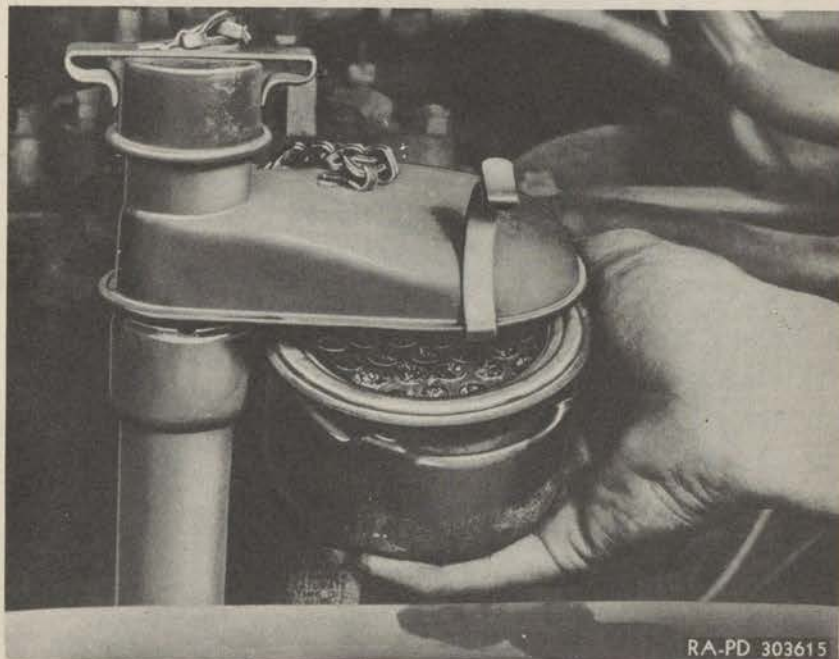

Figure 54—Removing Breather Sump and Mesh
- (1) Unsnap the clips holding the breather sump to the breather.
- (2) Take out the sump and wire mesh assembly (fig. 54).
- (3) Remove the mesh from the sump and clean these two parts thoroughly in a dry-cleaning solvent.